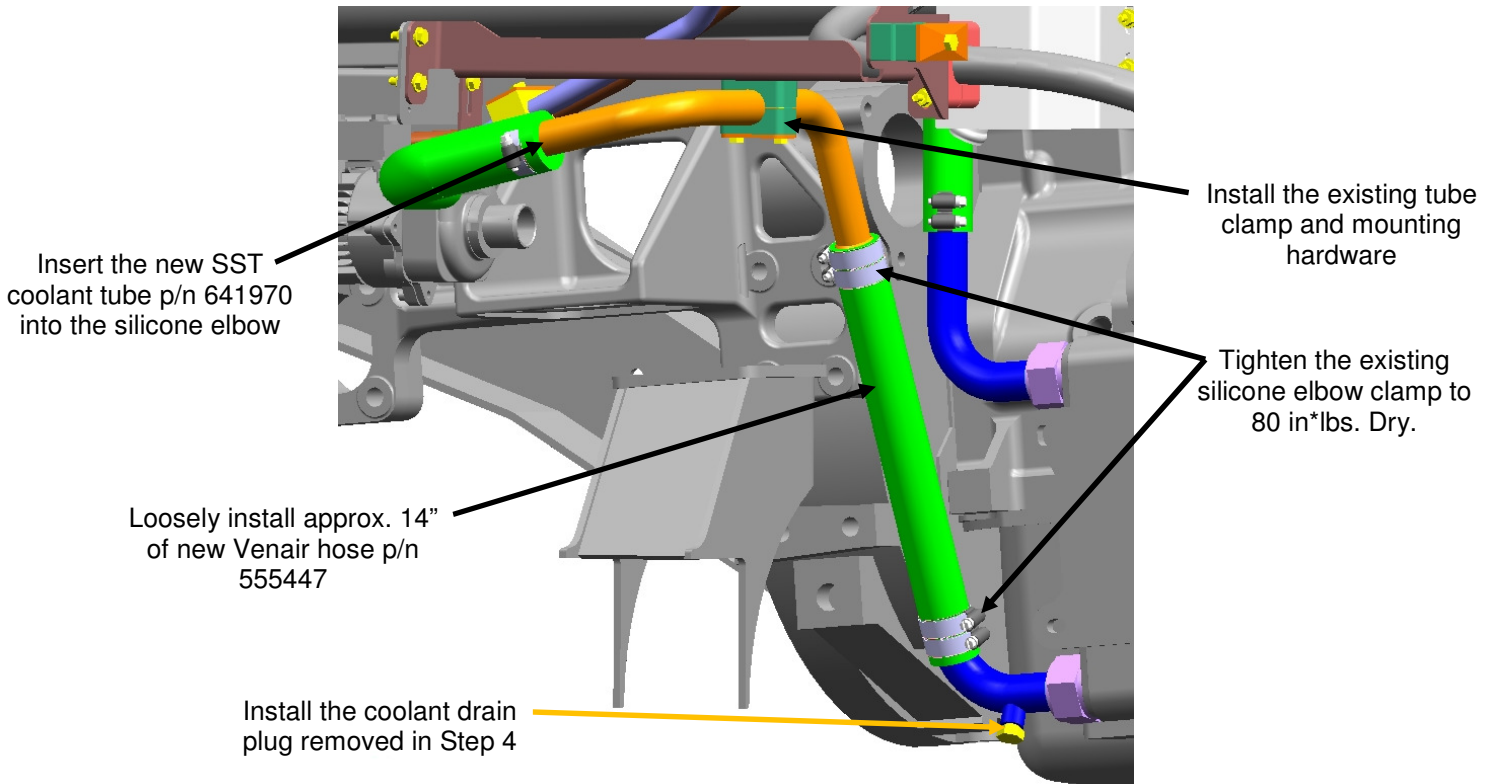

Figure 3: Cabin Heat Coolant Tube Installation
13. Insert the new SST coolant tube p/n 641970 into the silicone elbow at the booster pump. Loosely install the hose clamp removed in Step 7. Use Loctite 243 p/n 081034 on threads of hardware, see Figure 3.
14. Loosely install the existing tube clamp and mounting hardware in the same location as removed in Step in Step 6, see Figure 3.
15. Loosely install approx. 14" of new Venair hose p/n 555447 (trim hose to fit) between existing heat exchanger cabin heat SST elbow and newly installed tube from Step 14 using existing hose clamps removed in Step 9, two (2) at each end of the hose.